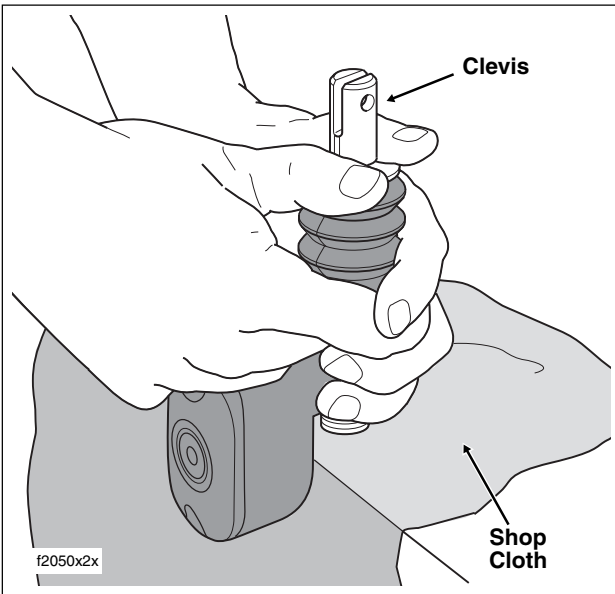

Figure 2-48. Compress Spring and Remove Retaining Ring
4. Push down on large flat washer to compress spring. While holding the spring in a compressed state, remove retaining ring from groove in clevis and then carefully release spring. See Figure 2-48. Discard retaining ring.